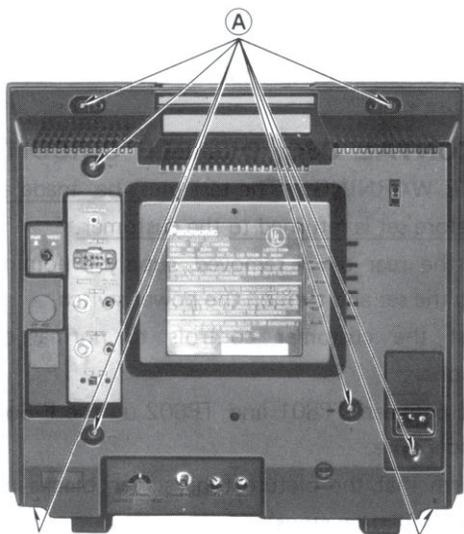

Figure 2
1. Remove 8 (A) screws shown in figure 2.